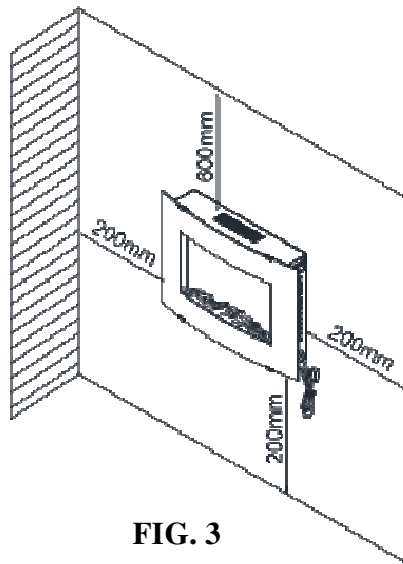

FIG. 3
4. Referring to Fig. 3, select a suitable position in which to mount the heater horizontally – use a spirit level to achieve this.